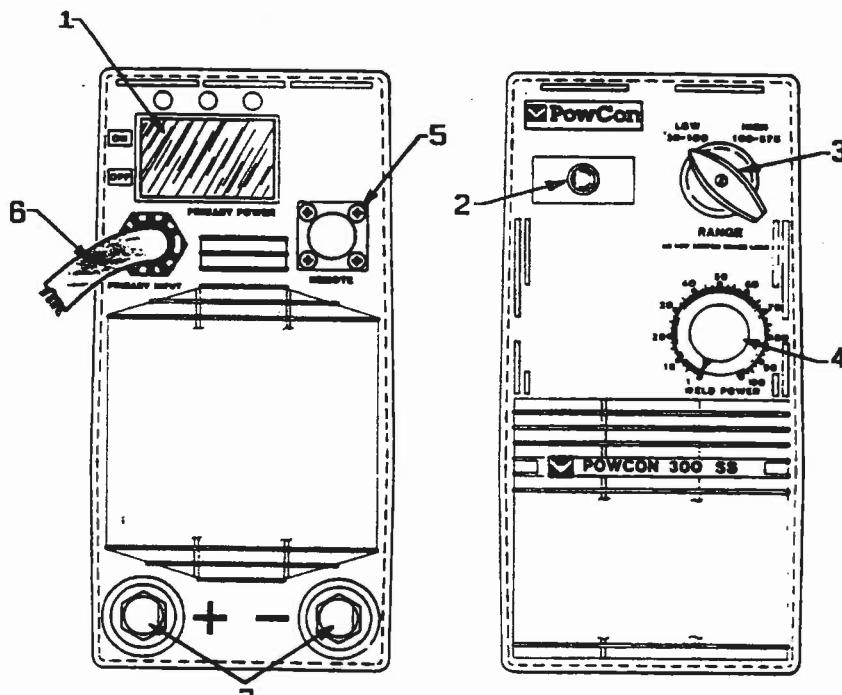

Figure 5, Front and Back Panel Controls and Connection Locations
C) Identify the voltage change-over instruction labels for the copper buss bars and working capacitor board located as shown in Figures 5 and 6.
- A) Locate the working capacitor PC board as shown in Figure 5.
- A) Locate and read the instruction label for the copper buss bars shown in Location 3 of Figure 5.